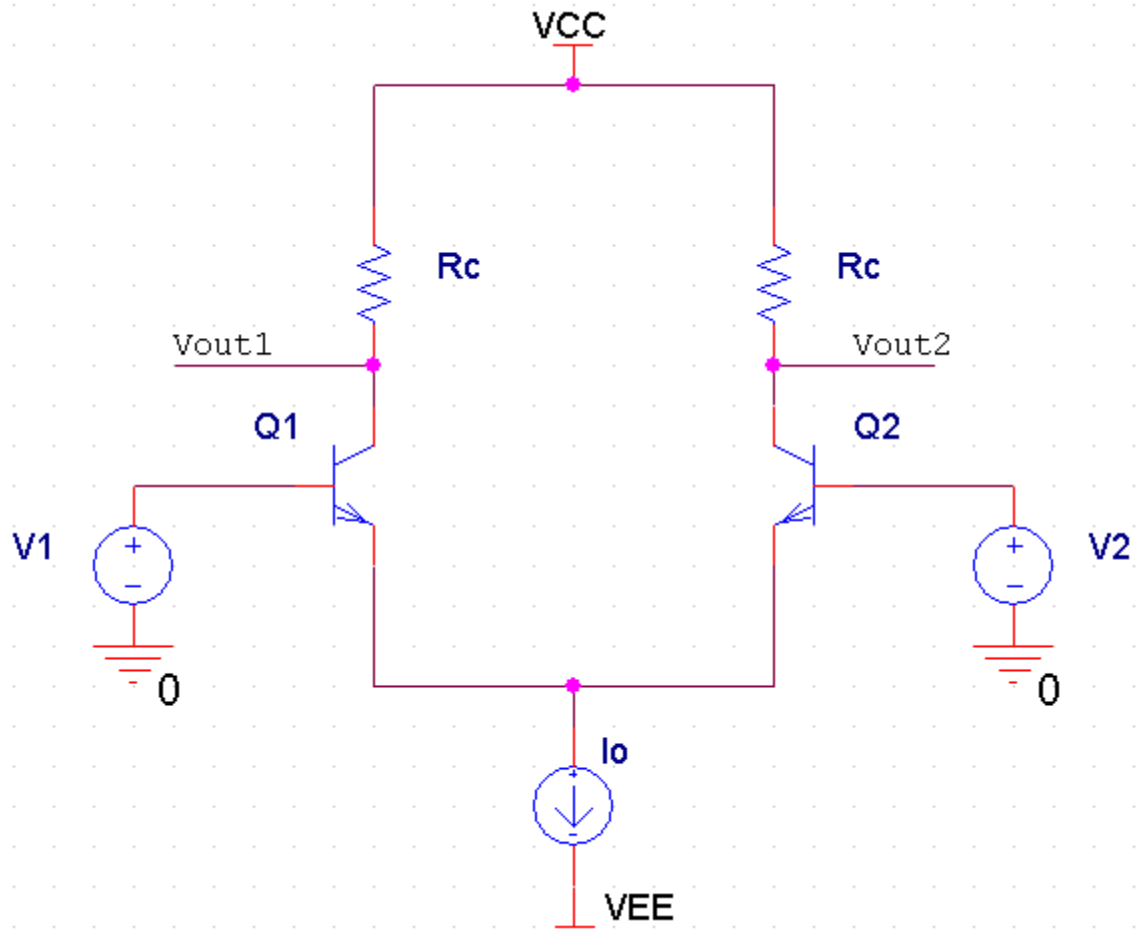

Figure 1.1.
The diff amp generates an output signal proportional to the difference between the two independent input signals. It consists basically of two MATCHED transistors biased by a current source which is another transistor usually part of a current mirror, as shown in Fig. 1.1. It is important therefore, when you build your circuit to make sure that you use two transistors with closely matched betas. This you will accomplish by measuring the transistors characteristics in the curve tracer or by simply using a multimeter to measure beta.
1.2.1. Design and build a single stage diff-amp (Fig. 1.1) with a linear output response in the frequency range of 20Hz to 20KHz. Use $V_{CC} = 10V$ and $V_{EE} = -10V$.